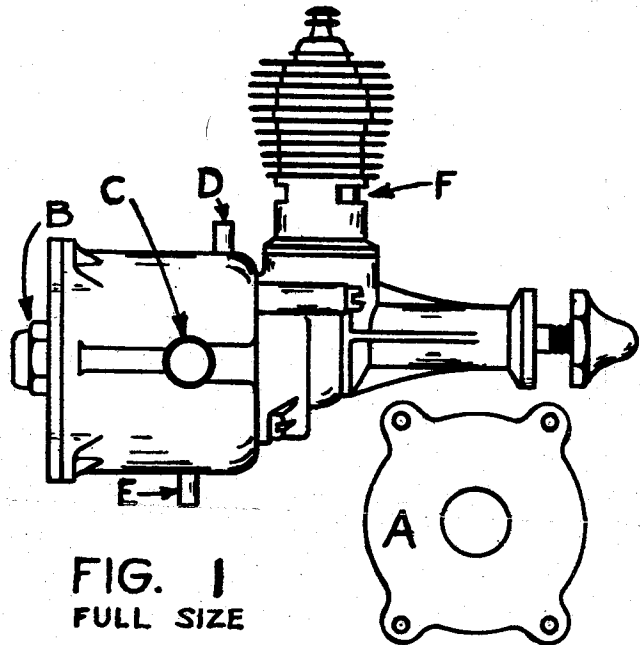

FIG. 1
1. Mount the engine in the plane or if you want to give it some running first, mount it on a narrow board, about 2" wide and fasten the other end of the board in a vise or nail it to something. **Do not hold the engine directly in a vise.** The 4 ears at the rear of the tank are for mounting. Use the template, A-Fig. 1, to drill mounting holes and breather hole. **The screened nut, B-Fig 1, in the rear is the air intake hole and must be left open.**
1. Close the carburetor needle valve, C-Fig. 1, by turning it clockwise till it stops. Do not force it.
2. Slip the filler hose of your pump or fuel can over the filler tube, D-Fig. 1, pump in fuel till it overflows through E-Fig. 1. Do not use gasoline. Use **Thimble-Drome Fuel.**
5. Turn the propeller to the position so that the exhaust ports F-Fig. 1 are wide open. Squirt 5 or 6 drops of fuel into the cylinder through one of the port openings. This is called priming.
3. If engine fires with a burst of power then dies repeatedly after each time it is primed, and this is not cured by opening the needle valve more, the fuel jet is stopped up. If the engine has not been run for some time it is likely that it is only stopped up with castor oil. Choke the engine by holding a finger over the intake, B-Fig. 1, and flip the propeller over 3 or 4 times. This will remove the castor oil and the engine should start. If the same symptoms re-occur, the jet possibly has dirt in it and this should be blown out as per next paragraph.
4. Stopped up fuel line or jet. Remove the needle valve. Blow in to the filler tube, D-Fig. 1, with high pressure air such as available at service stations. **Never blow into the venturi tube, B-Fig. 1.**